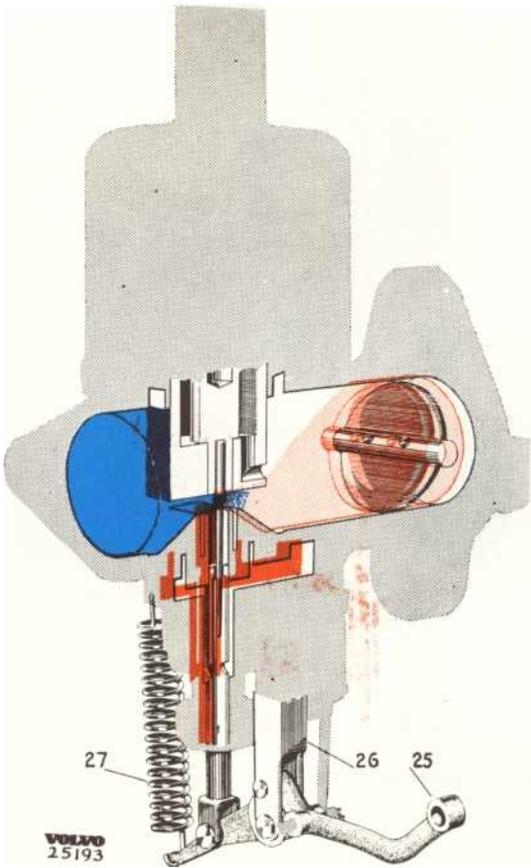

Fig. 9. Carburetor, cold start.
In order to richen the fuel-air mixture when starting a cold engine, there is a device on the carburetor (Fig. 9) by which the jet can be lowered. When the jet is lowered, there will be a wider passage for the fuel since the needle in the jet is tapered. There is no choke shutter on the carburetor.
When a cold engine is being started, the outer end of the lever (25, Fig. 9) is pulled upwards by means of a control, whereby the movement is transmitted through the link (26) so that the jet, which is connected to the inner end of the lever, is pulled downwards. This movement is limited by means of a projection on the lever and return to the normal position is taken care of by the return spring (27), when the control is pushed in.